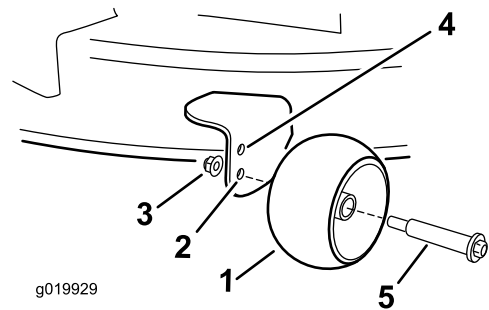

Figure 23
- Upper hole—use this position with the mower deck in the 63mm (2-1/2 inch) and below height-of-cut positions (Figure 23).
- Lower hole—use this position with the mower deck in the 76mm (3 inch) and above height-of-cut positions (Figure 23).